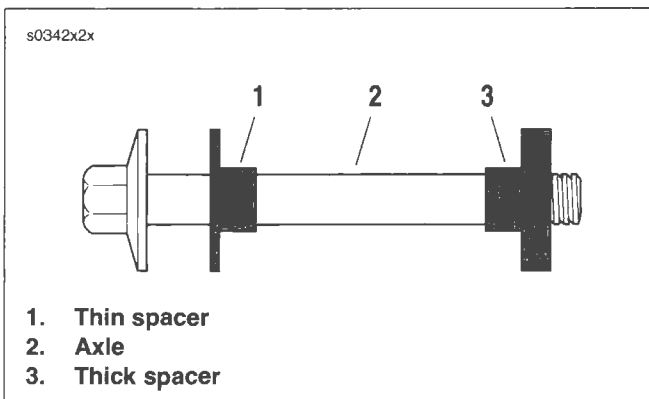

Figure 2-129. FLSTSC Spacer Alignment
6. See Figure 2-129. Install spacers to axle with step towards the front wheel.